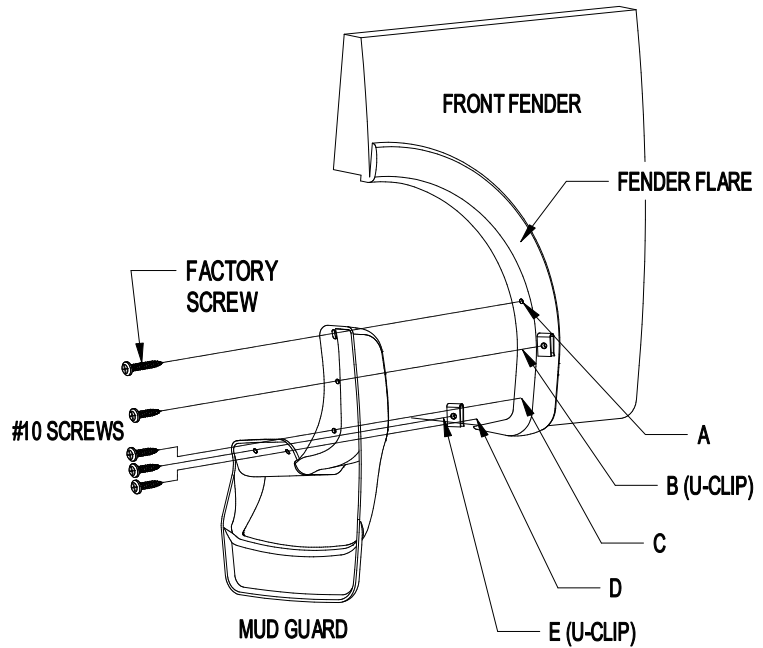

Figure 1
2. Remove factory fastener from location A (Figure 1).